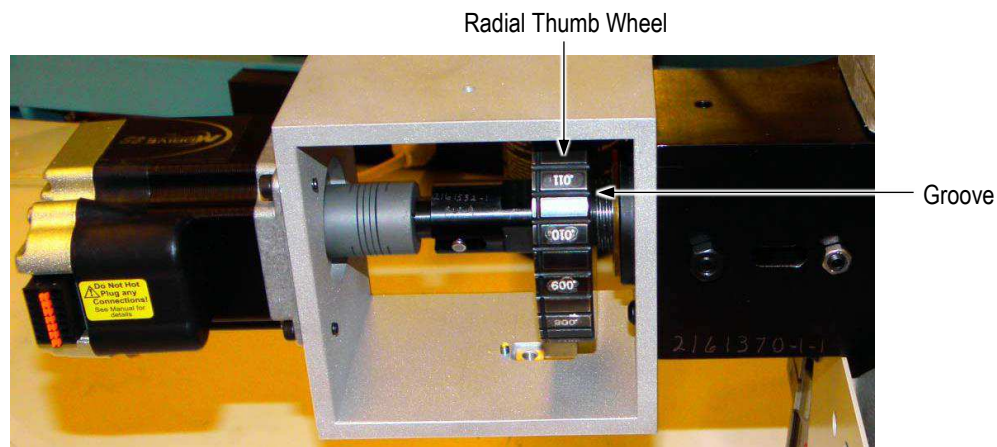

Figure 17
- Aligning the vertical line of the indicator plate with the radial thumb wheel groove and the horizontal line of the indicator plate with the axial thumb wheel zero groove will produce a maximum crimp height for all products (see Figure 17).